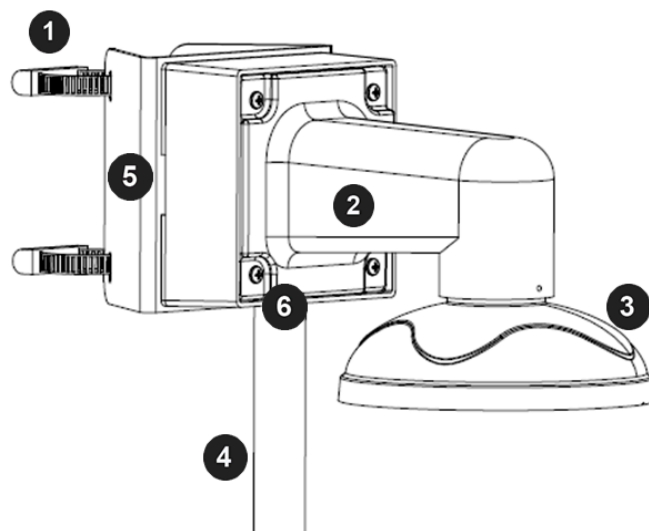

Figure 2: Attach wall mount adapter to pole mount adapter
6. Attach the Wall Mount Adapter (AV-WMJB) to the Pole Mount Adapter (AV-PMA) as shown in Figure 2.